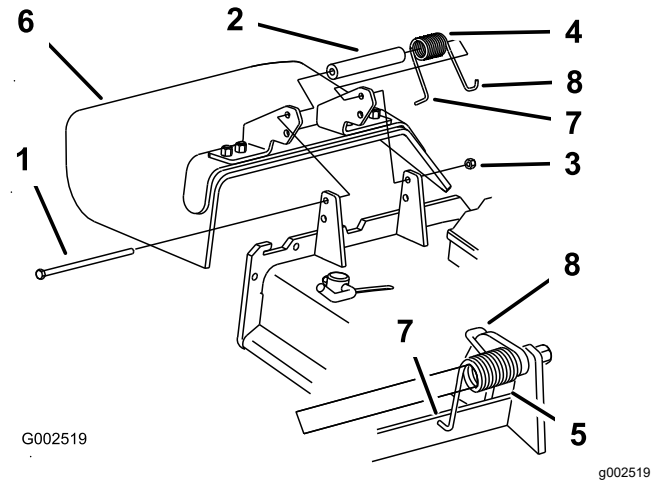

Figure 16
1. Remove the side discharge chute from the mower deck (Figure 16).